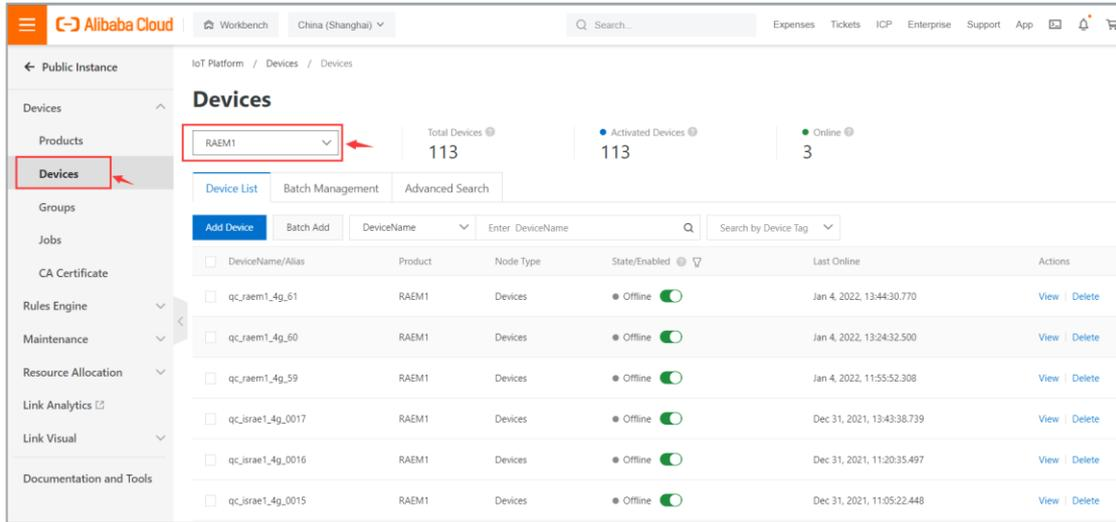

Fig. 4-57 Qingcheng Alibaba Cloud
- (1) Choose “Public Instance”. (See Figure 4-57).
- (2) Select “Devices” >> “Devices” in the left column (Figure 4-57). There are all devices listed below. Choose the device type “RAEM1” below the “Devices” to search for only RAEM1s. Click on the desired device name.